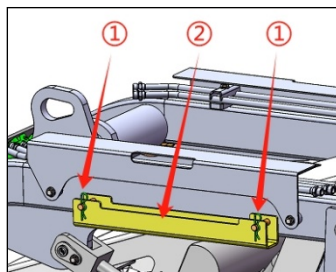

图1
Step 1: Lower the lifting arm, remove the R-pin ①, take out the safety brace ② (as shown in Figure 1), and then insert the R-pin back into its original position.